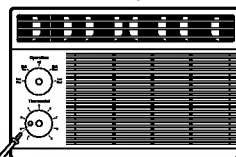

Fig. 3
2. Remove the screw securing the Front Grille. (Fig. 3)